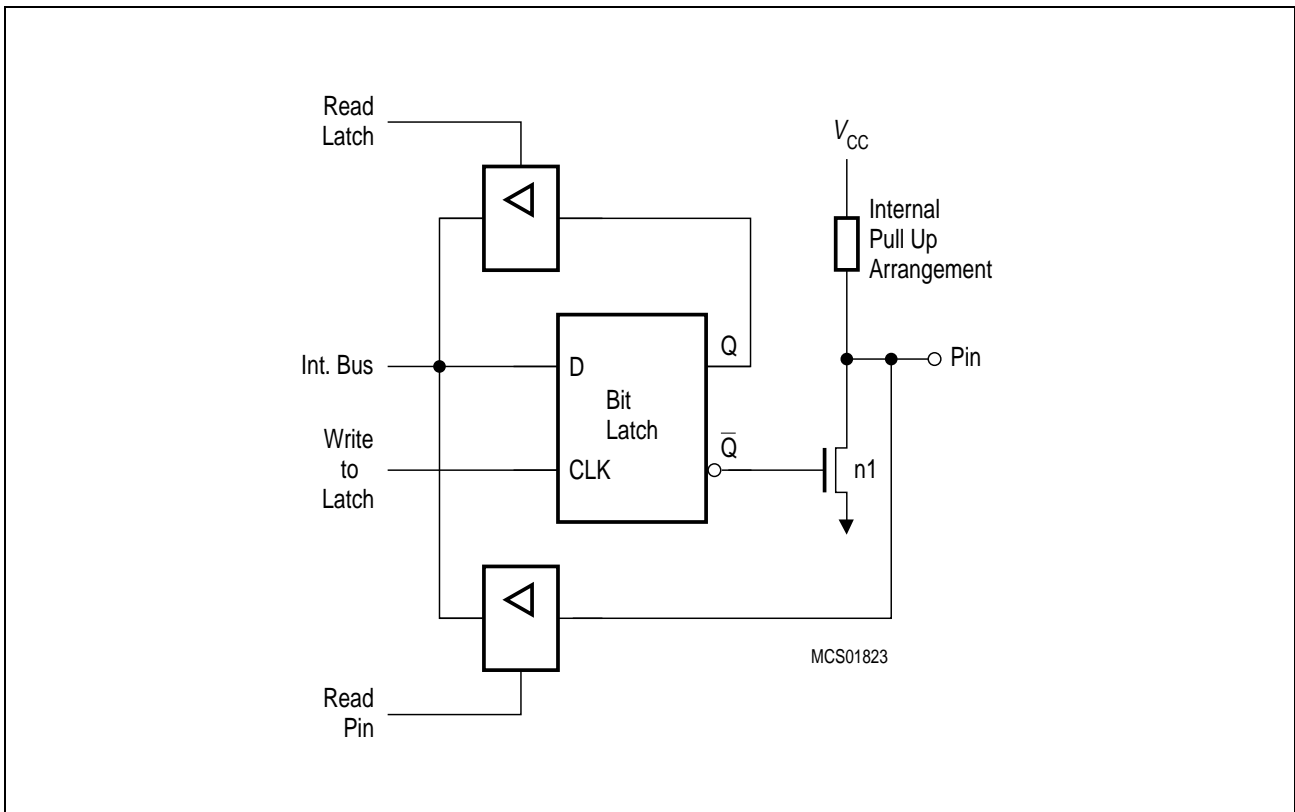
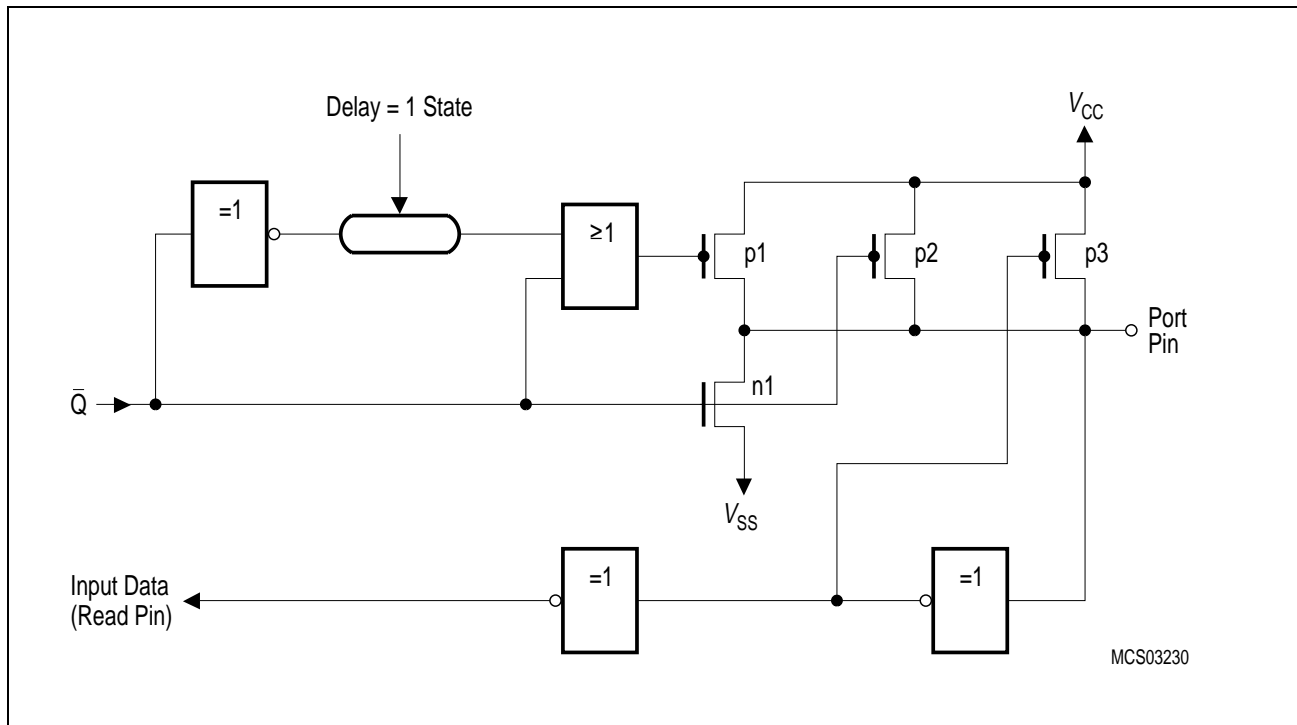

Figure 6-5
Figure 6-6
Port 1, 2 and 3 output drivers have internal pullup FET's (see **figure 6-5**). Each I/O line can be used independently as an input or output. To be used as an input, the port bit stored in the bit latch must contain a one (1) (that means for **figure 6-5**: $Q=0$), which turns off the output driver FET n1. Then, for ports 1, 2 and 3, the pin is pulled high by the internal pullups, but can be pulled low by an external source. When externally pulled low the port pins source current (I_{IL} or I_{TL}). For this reason these ports are sometimes called "quasi-bidirectional".
In fact, the pullups mentioned before and included in **figure 6-5** are pullup arrangements as shown in **figure 6-6**. One n-channel pulldown FET and three pullup FETs are used: